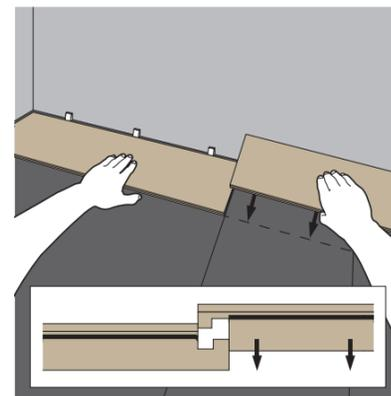

Figure 2
- 4) Lay the first row in a straight line and click the head ends together. Put the short side of the profile into head end of the previous panel and press the panel downwards. It is recommended to use a rubber mallet for connecting the head ends so that the joint fits securely. Continue laying the first row in the same way until you get to the last piece. (Figure 2)